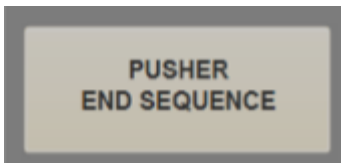

Figure 14. End of Sequence Pusher button.
10. After the last section use the "water pusher". Click the **PUSHER END SEQUENCE** (Figure 14) button located in the *Section Information* window.